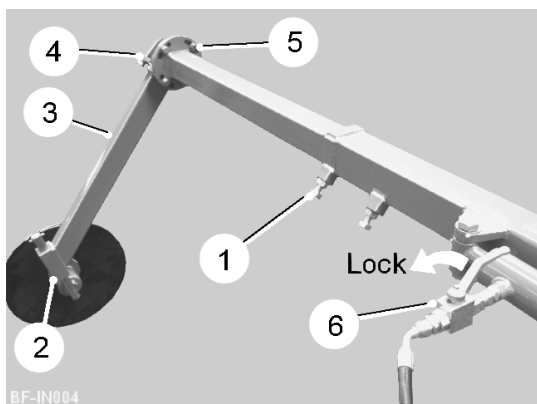

Fig 5
The markers can be adjusted to suit various marking settings. To adjust, slacken the retaining bolts (item 1, fig 5) and slide the disc to the required position and retighten. The width of furrow that the disc makes can be varied by slackening the two locking bolts (item 2, fig 5) and rotating the disc to the desired position.
Each disc arm (item 3, fig 5) is fitted with a rubber torsion block (item 4, fig 5) which allows the disc to ride over any obstructions. Disc height and pressure can be increased/decreased by loosening the fixing bolts (item 5, fig 5) and rotating the disc arm in the slots and retightening.
During transport the marker ram taps (item 6, fig 5) must be set in the locked position.